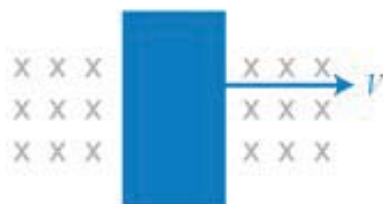

Figure 6: A conductor (light blue rectangle) moving through a magnetic field (gray X's).
4. Figure 6 shows a conductor moving in a uniform magnetic field. Show that when the conductor moves in the magnetic field, the magnetic force induces an electric field in the conductor by drawing what occurs inside of the conductor. Explain your drawing.